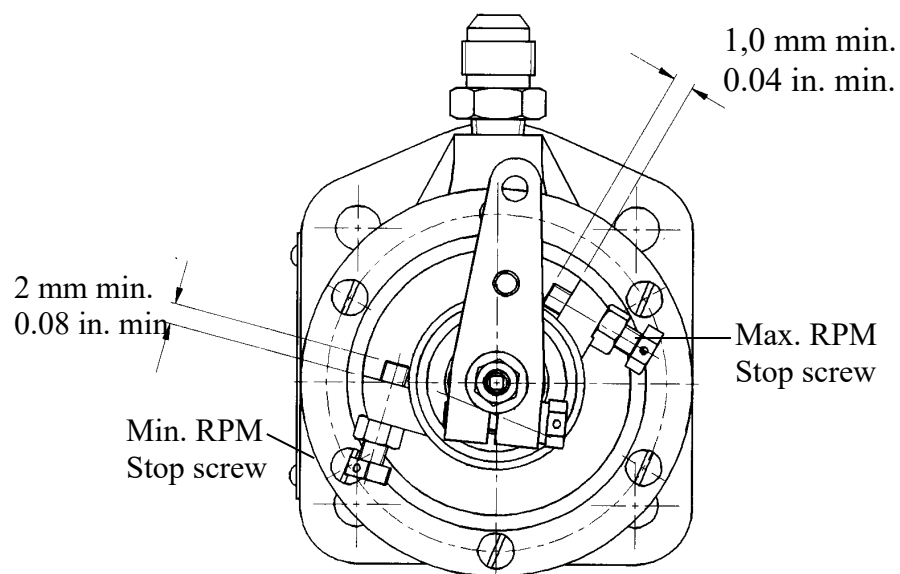

Fig. 502
### 5.5.b Adjusting maximum propeller RPM (see Fig. 502)
**ATTENTION : AFTER ADJUSTMENT, THE MAX. RPM STOP SCREW MUST OVERLAP THE STOP SCREW SUPPORT AT LEAST 1 MM (0.04 INCHES)** (see Fig. 502).
### 5.5.c Adjusting feathering RPM (see Fig. 502)